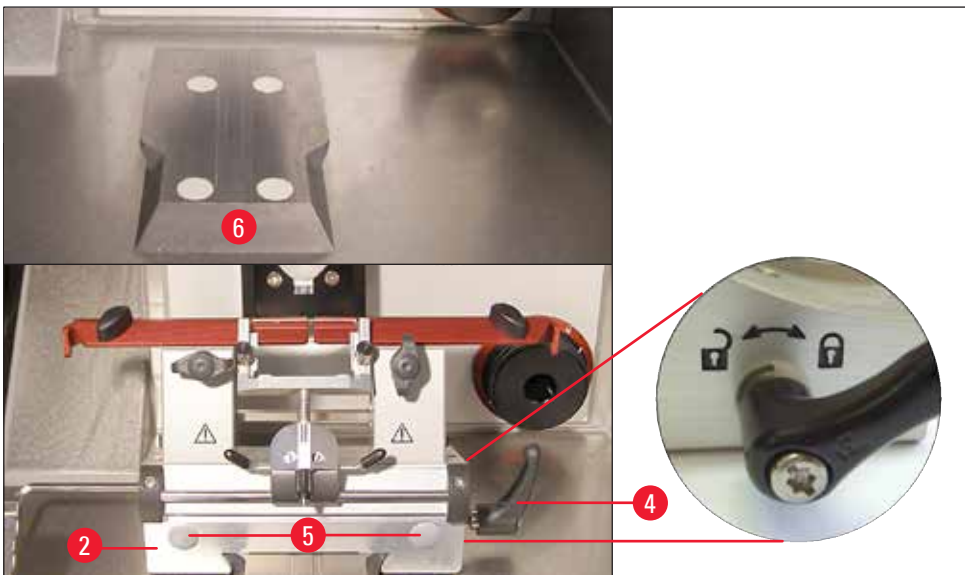

Fig. 25
- Push the knife/blade holder base (→ Fig. 25-2) on the dovetail guide (→ Fig. 25-6) from the front and tighten it using the clamping lever (→ Fig. 25-4). Move the clamping lever clockwise (toward the closed lock symbol) on the right side of the blade/knife holder base (see detail of (→ Fig. 25)). To move the base, open the clamping lever only a little to prevent accidental sliding in the direction of the specimen head! Move the clamping lever counterclockwise (toward the open lock symbol) on the right side of the blade/knife holder base (see detail of (→ Fig. 25)).